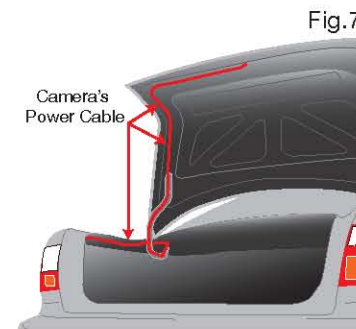

Fig.7
9. Once you have located the reverse light circuit you will have to route the camera's power cable to that location. You must securely fasten the power cable to prevent it from being caught on any vehicle component such as the trunk hinge (Fig.7). Never route the cable on the outside of the vehicle.